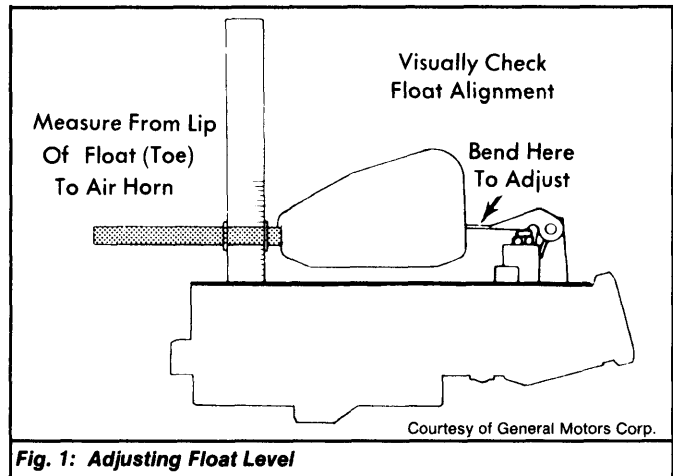

Fig. 1: Adjusting Float Level
- 1) Remove air horn, leaving gasket in place. Turn air horn upside-down. Allow weight of float to rest on top of needle. See Fig. 1.